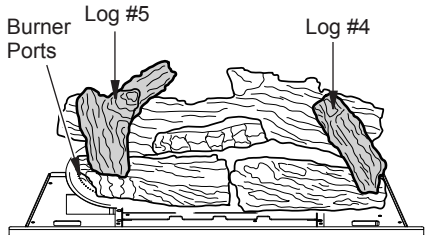

Figure 19 - Installing Logs 4 and 5
4. Install the recessed hole on the bottom of log 4 onto the pin on log 1 and place onto log 3 (see Figure 19).
5. Install the recessed hole on the bottom of log 5 onto the pin on log 1 and place onto log 2 (see Figure 19).
IMPORTANT: Make sure logs do not cover any burner ports (see Figure 19). It is very important to install the logs exactly as instructed. Do not modify logs. Use only logs supplied with heater.